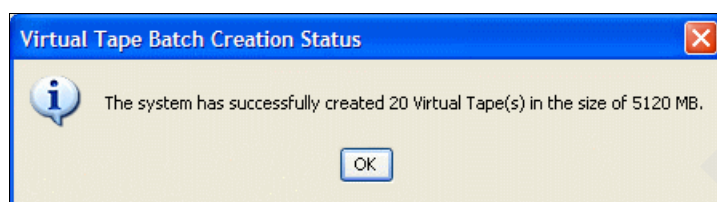

Figure 6-46 Cached virtual library creation: Virtual tape batch creation status
13. Click **OK** to exit the tape creation status message shown in Figure 6-46.